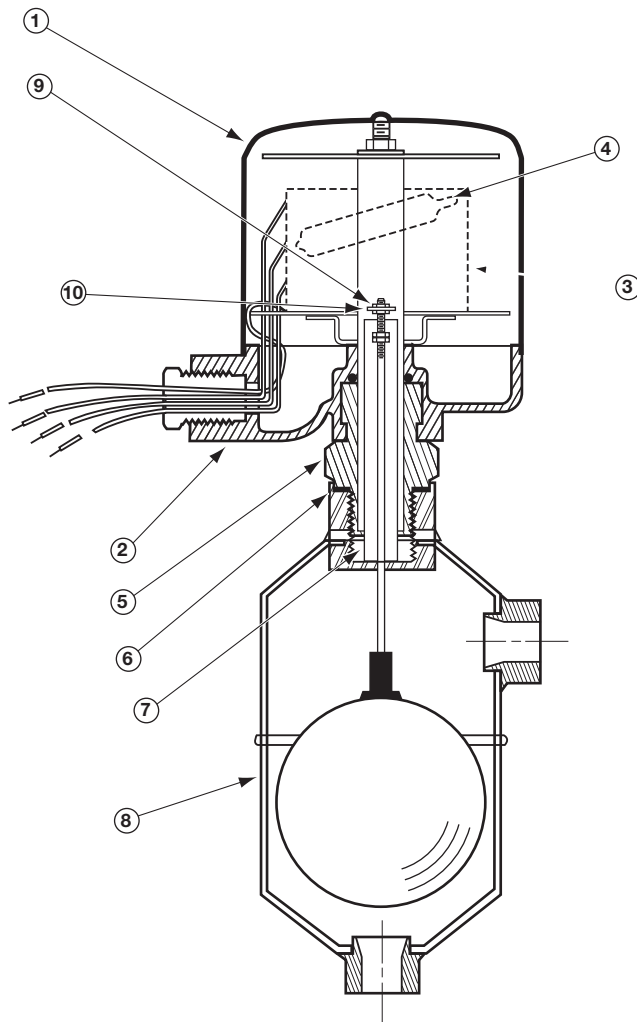

Figure 7
3. Remove switch housing assembly by loosening enclosing tube nut located immediately below housing base. Refer to Figure 7.